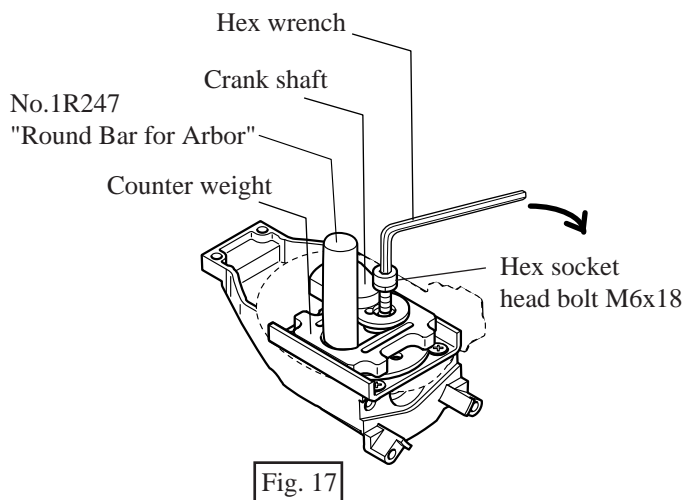

Fig. 17
3. Lock crank shaft by inserting No.1R247 "Round Bar for Arbor" into the elliptic hole of counter weight. Unscrew hex socket head bolt M6x18 to which adhesive is applied in advance, with hex wrench, or impact driver See Fig. 17.